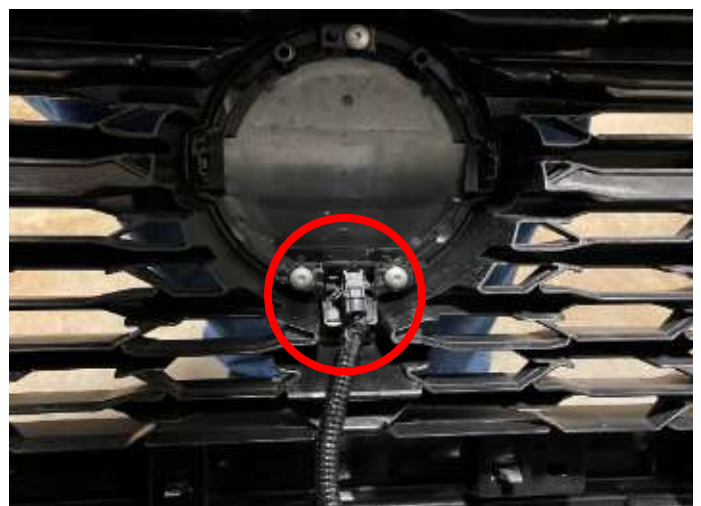

Figure 9
9. If equipped with an Around-View Monitor (AVM), disconnect the wiring harness connector. (Figure 9)